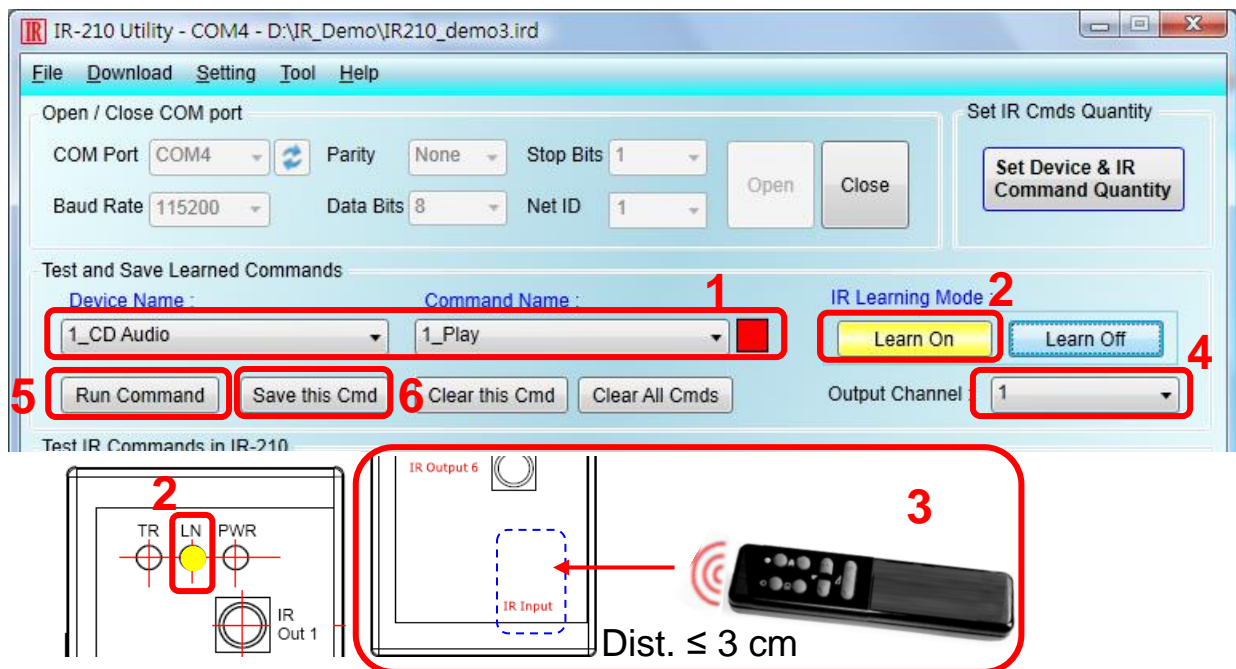

Figure 4-6 The steps to learn IR commands
Follow the steps below and the illustration in fig. 4-6 to learn and test IR commands:
- (1) Determine the IR command for learning by selecting the items in the “Device Name” and “Command Name” comboboxes.
- (2) Click the “Learn On” button to enable the IR learning mode on IR-210. At the same time, the LN LED is turned on to show the state.
- (3) Aim the IR emitter head of the device’s remote control at the IR input of IR-210. The distance less than 3 cm between the remote control and the IR-210 would be best. Then, press the button of the remote control which is to be learned. If the learning for the IR command is finished, the LN LED will be turned off and the IR learning data will be sent back to the Utility.
- (4) Select the IR output channel. For example in the fig. 4-6, the IR output channel is 1.
- (5) Aim the head of the IR emitter cable plugged in the IR output 1 at the corresponding IR-controlled appliance. Click “Run Command” button to emit the IR command from the IR-210. You can check if the learned IR command is OK by investigate the action of the appliance. If not, please repeat step 2 and step 3 again.
- (6) Click “Save this Cmd” button to save this IR learning command to the current item of the “Command Name” combobox, e.g. the item is “Play” in fig. 4-6.